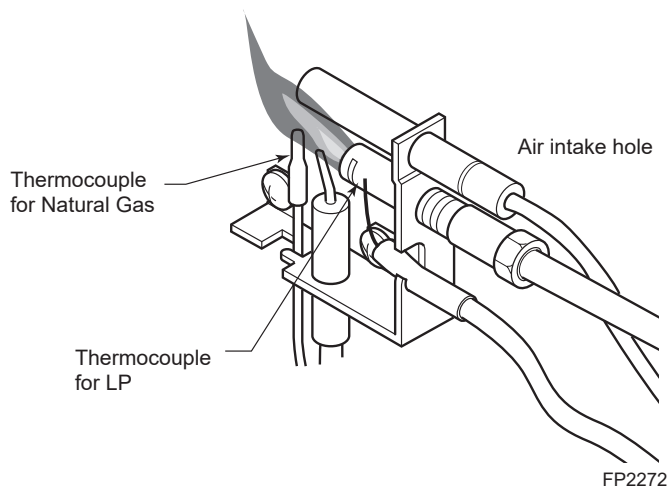

Figure 30. Correct ODS Pilot Flame Appearance
The pilot flame must always be present when the heater is in operation. It should just touch the top of the thermocouple tip for natural gas. Refer to Figure 30 for correct pilot flame.
- Inspect ODS pilot for operation and accumulation of lint at air intake holes. (Figure 30)